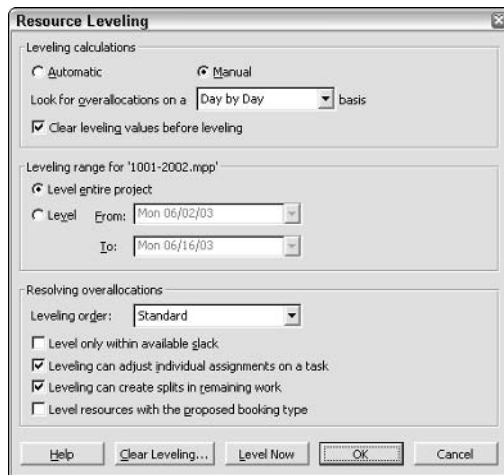

Figure 10-13: From the Resource Leveling dialog box, you can set resource leveling options.
1. Choose Tools→Level Resources to open the Resource Leveling dialog box, as shown in Figure 10-13.